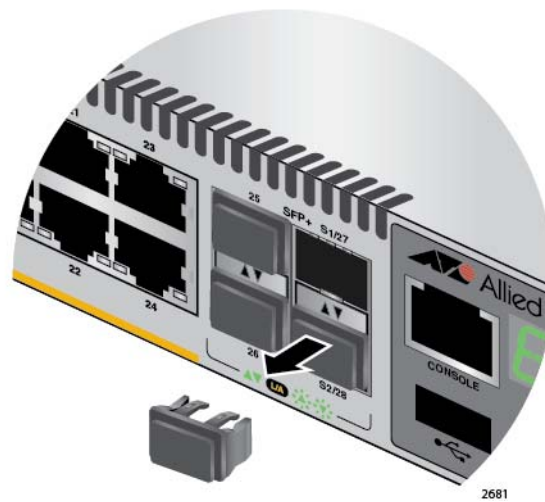

Figure 29. Removing the Dust Plug from the S1 Slot
1. Remove the dust plug from the S1 slot on the top switch of the stack, as shown in Figure 29.